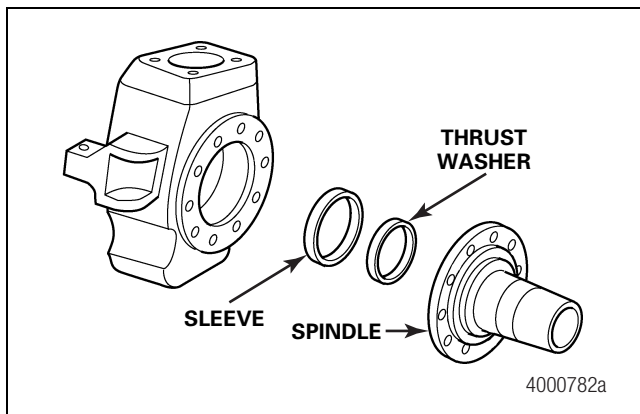

Figure 6.10
2. If disassembled, install the thrust washer and seal wiper sleeve into the spindle. Figure 6.10.